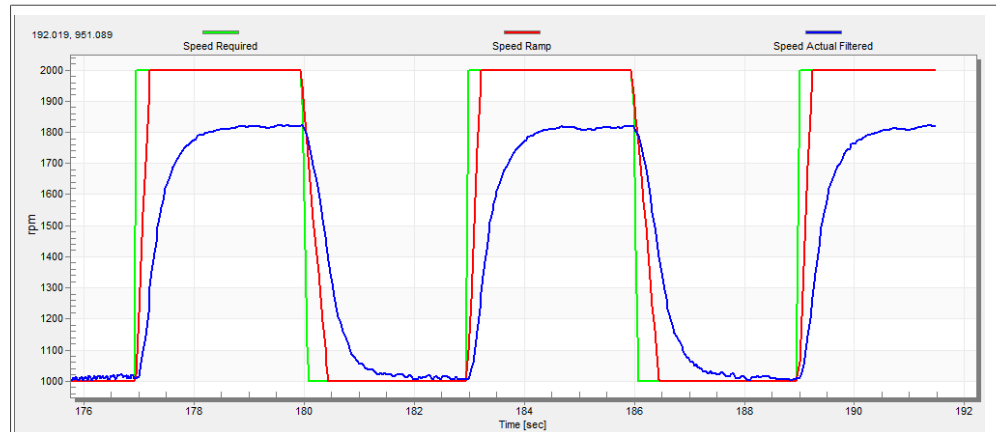

Figure 31. Speed controller response—SL_Ki value is low, Speed Ramp is not achieved
The motor speed control loop is a first-order function with a mechanical time constant that depends on the motor inertia and friction. If the mechanical constant is available, the PI controller constants can be tuned using the loop bandwidth and attenuation. Otherwise, the manual tuning of the P and I portions of the speed controllers is available to obtain the required speed response (see the example response in Figure 31). There are dozens of approaches to tune the PI controller constants. The following steps provide an approach to set and tune the speed PI controller for a PM synchronous motor:
- The “SL_Ki” value is low and the “Speed Actual Filtered” does not achieve the “Speed Ramp” (see Figure 31).